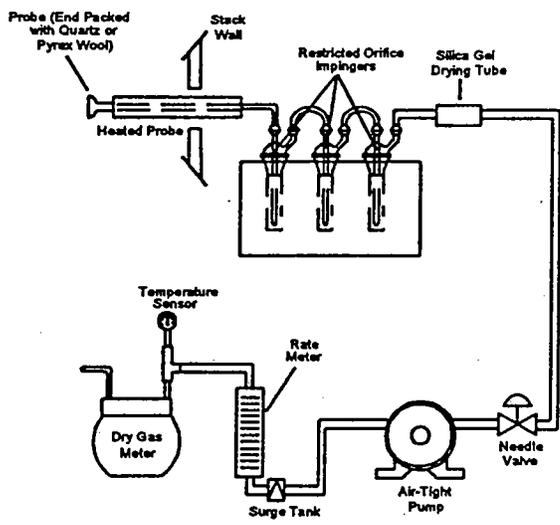

Figure F7C-1. NOx Sampling Train.
- b. Assemble the train as shown in Figure F7C-1.